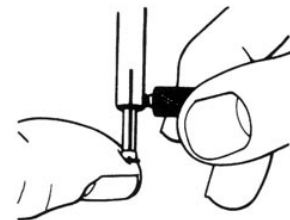

Fig. 1
3. Check that the knurled thumbscrew on the paralleling mandrel is loose. Place the female plastic pattern on the mandrel. While holding the female against the shoulder of the mandrel, tighten the thumbscrew to secure the female in place (Fig. 1).